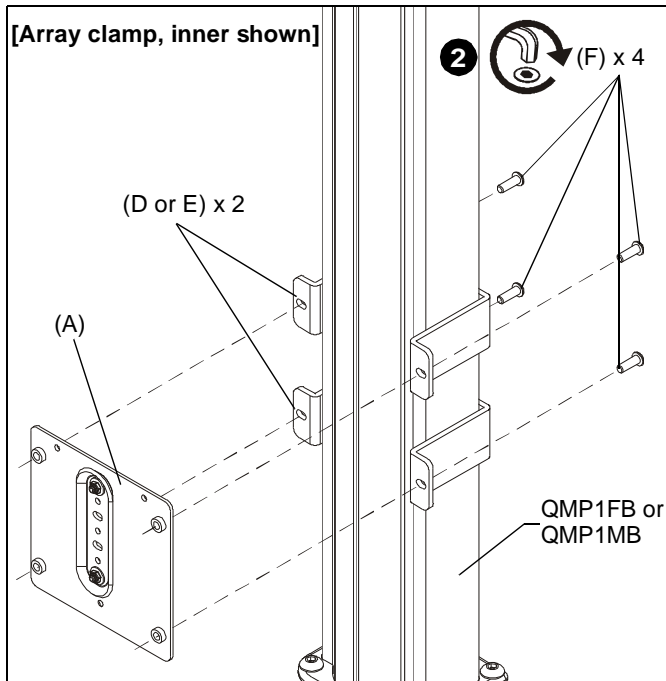

Figure 1
- Array clamp, outer (E) is used to attachment plate (A) to OUTER column of cart/stand (below adjustment knob).
- Array clamp, inner (D) is used to attachment plate (A) to INNER column of cart/stand (above adjustment knob).
- Attach two array clamps (D or E) around cart/stand column to attachment plate assembly (A) using four 1/4-20 x 3/4" button head cap screws (F). (See Figure 1)